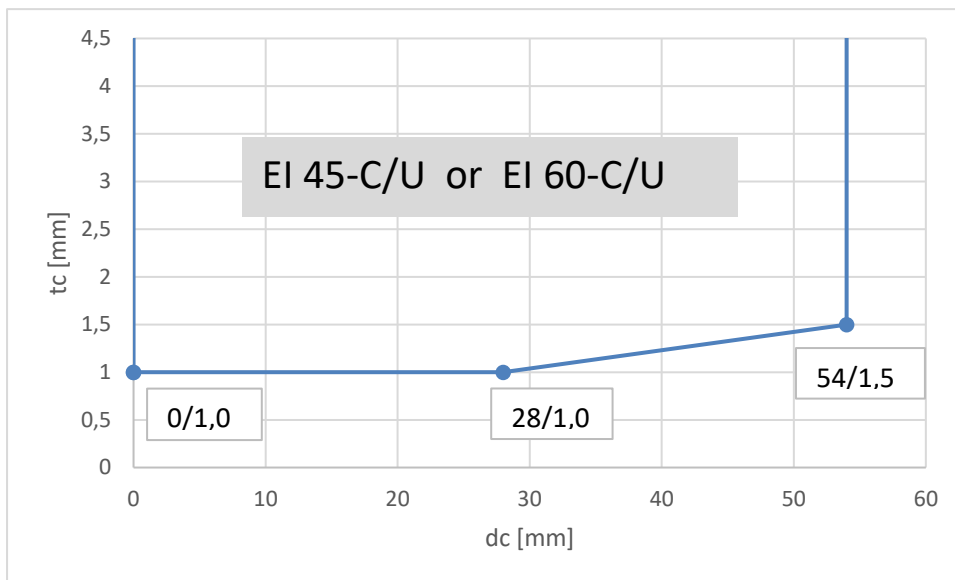

Figure 63: Classification for insulated metal pipes, sealed with CFS-S ACR in CFS-CT HDB
Classification given in Figure 63 is valid for:
- Pipe diameter and minimum pipe wall thickness: see Figure 63.